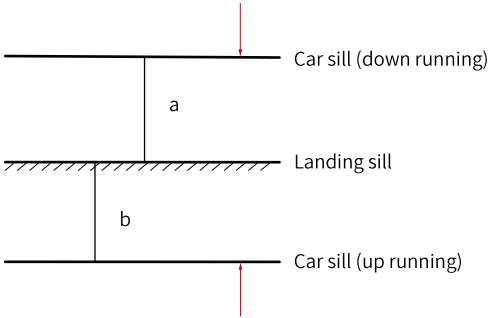

Figure 22-19 Under-leveling
1. For under-leveling (as shown in "Figure 22-19 " on page 544), add H ($H = (a + b)/2$) to F4-00.